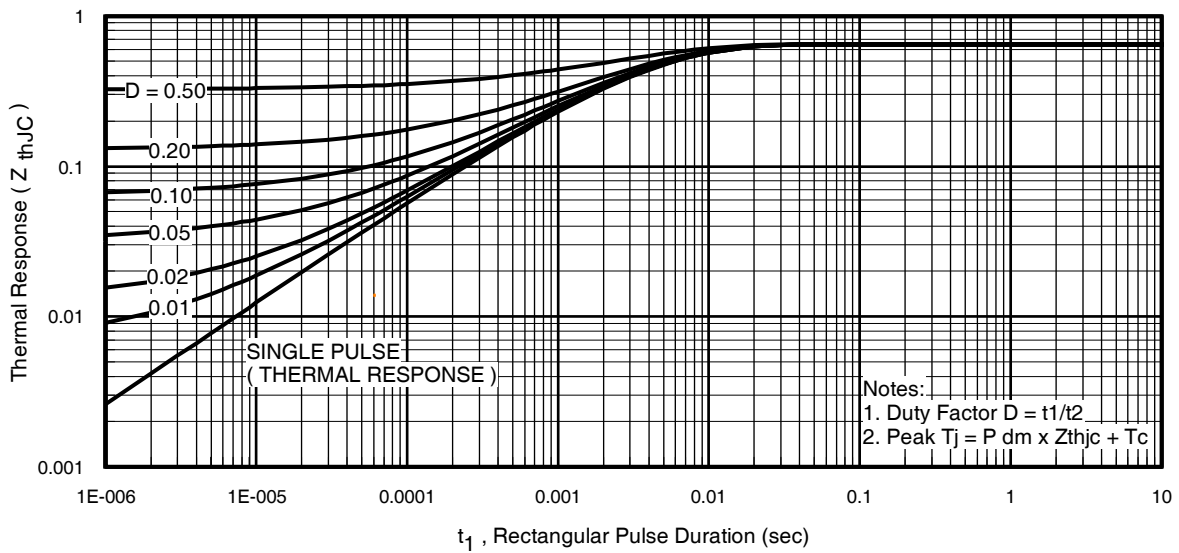

Fig 11. Maximum Effective Transient Thermal Impedance, Junction-to-Case
- ① Repetitive rating; pulse width limited by max. junction temperature. (See fig. 11).
- ② Limited by T_{Jmax} , starting $T_J = 25^\circ\text{C}$, $L = 0.10\text{mH}$
$Z_{thJC}(D, t_{av})$ = Transient thermal resistance, see figure 11)